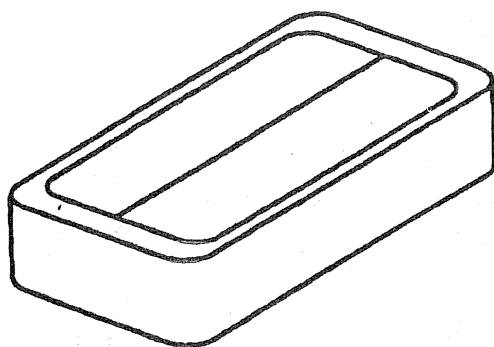

Figure 15—Proper Storage of Inflator Module
8. Place the inflator module on a work bench or other surface away from all loose or flammable objects with its vinyl trim cover facing up, away from the surface (Figure 15).